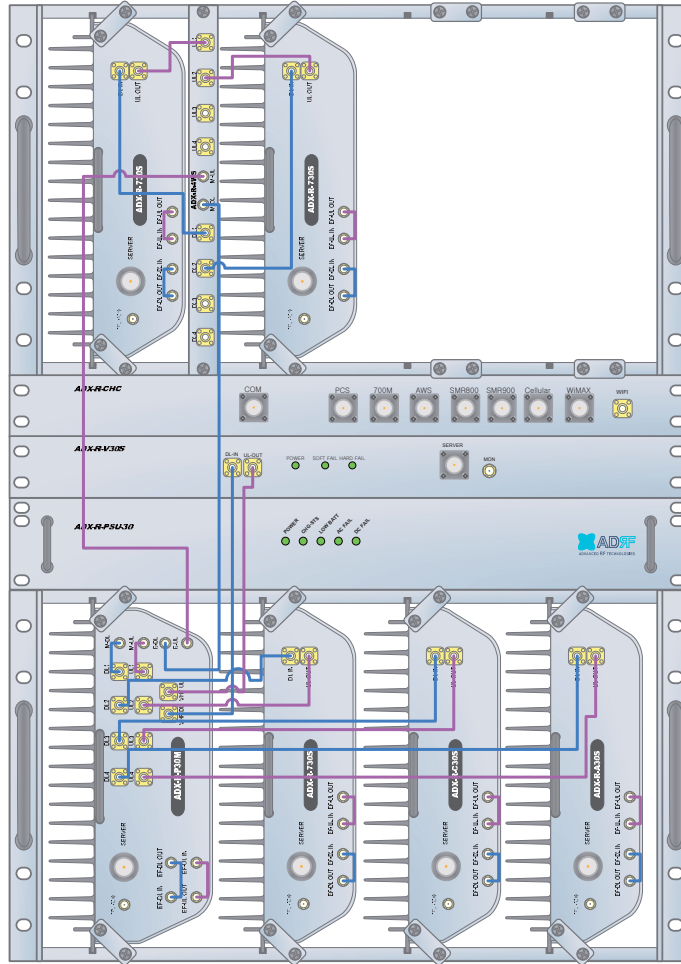

Figure 4-4 Slave RU Expansion using ADX-R-4WS
- ADX-R-4WS combines/transfers UL signal received from extended slave RUs to E-UL port (refer to Figure 4-4)